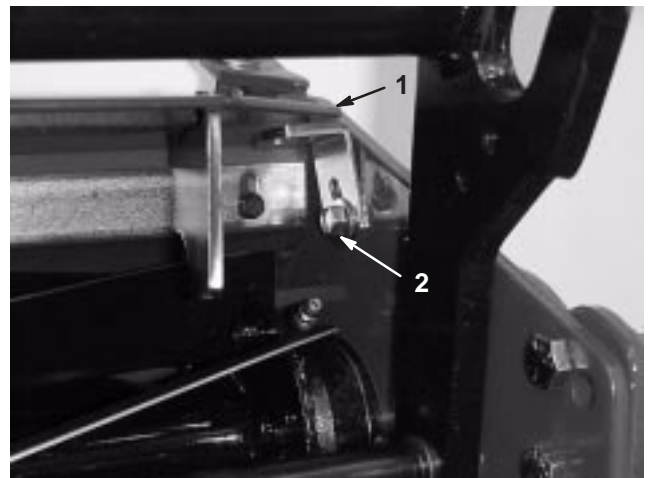

Figure 2
2. Loosen capscrews and nuts securing shield to each side plate. Move shield to desired angle and tighten fasteners (Fig. 2).